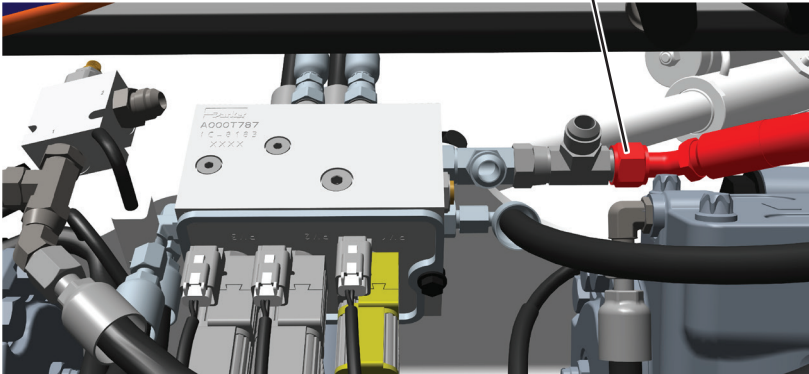

Figure 4. Chute Manifold Hose Disconnect
6. Disconnect hydraulic hose #3126 from end of chute manifold outer T-fitting. See Figure 4. Cap/cover end of hydraulic hose to prevent contamination and tie hose end to side.